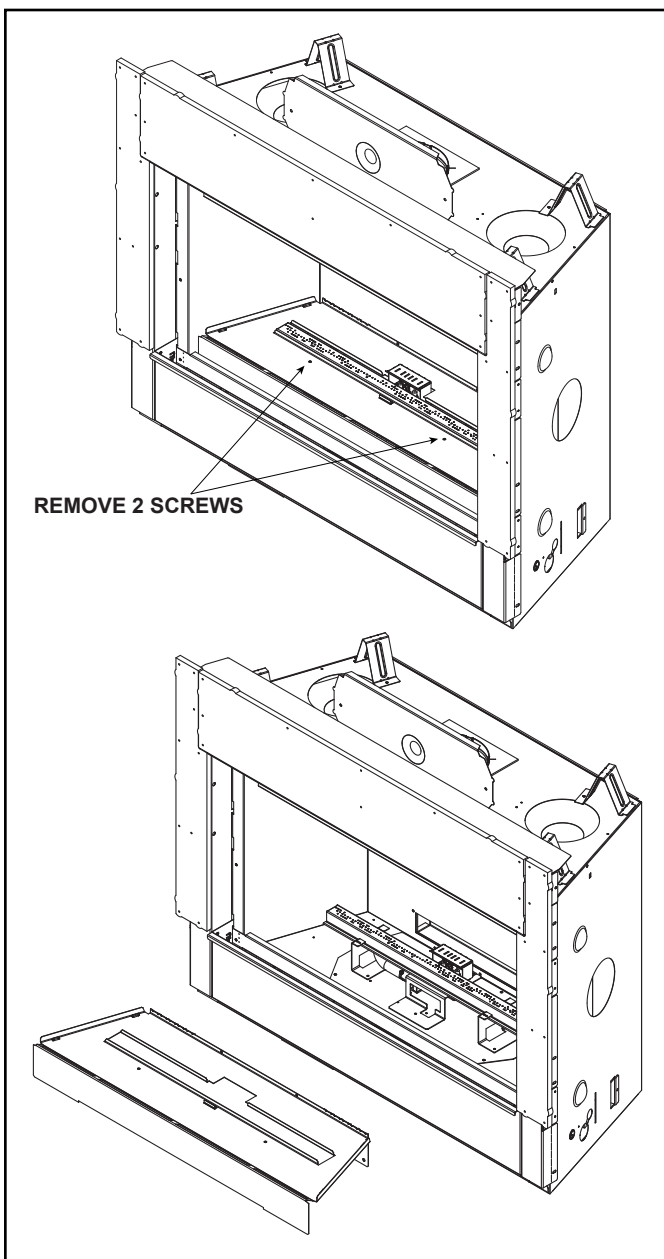

Figure 9.1 Basepan Removal
1. Locate and remove the two screws that secure the basepan to the appliance. See Figure 9.1. Remove basepan. Retain screws.